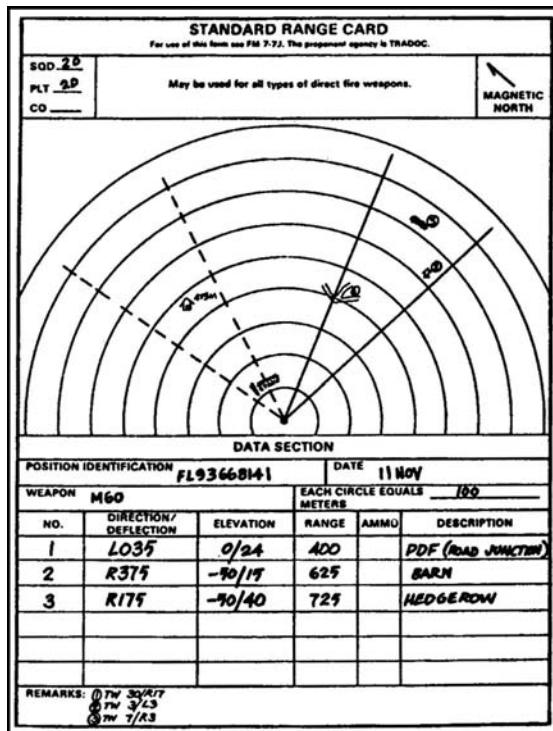

Figure 071-000-0005-2. Primary sector with principal direction of fire
- (1) Center the machine gun position at the bottom of the sketch.
- (2) Include any prominent natural and man-made features that a target could use to take cover.
- c. Write the following information in the top portion of the range card (figure 071-000-0005-2 and figure 071-000-0005-3):